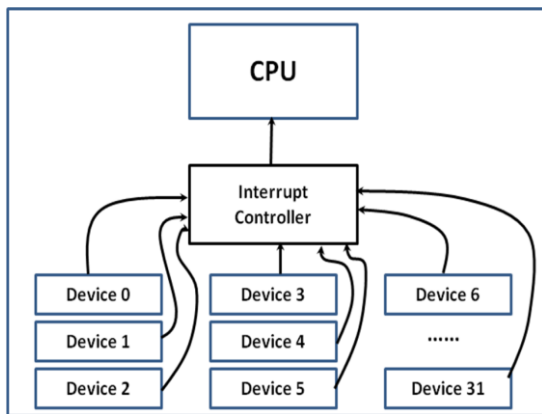
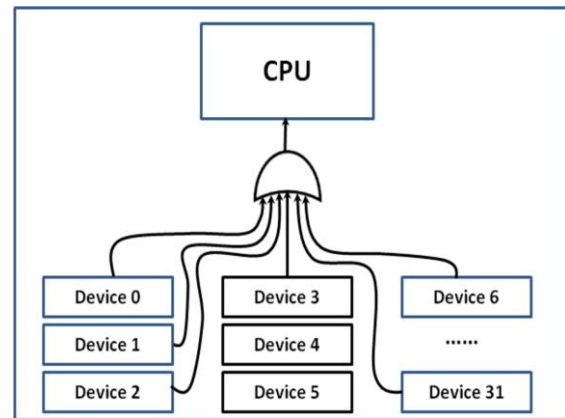

Figure 1. GIC
Figure 2. Simple interrupt controller
1. In computer systems, the interrupt controller is an essential hardware component. The GIC discussed in the class is shown in Figure 1. Another simple way to connect interrupt sources to CPU is through an OR gate as shown in Figure 2. **(20 points)**
- a. Assume that interrupts were generated from several I/O devices. So, CPU jumped to ISR (Interrupt Service Routine). Write the pseudo codes in C or ARM assembly to check the highest-priority interrupt source for Figure 1 and Figure 2. Refer to the next page for GIC registers. **(15 points)**
<pre>// Answer for the configuration of Figure 1 The GICC_IAR (Interrupt Acknowledge Register) contains the interrupt source number with the highest priority, ldr r1, = GICC_IAR ldr r1, [r1] jump to ISR based on r1 // r1 contains the source number // with highest priority</pre>	<pre>// Answer for the configuration of Figure 2 for (i=0; i<#devices;i++) { check status register of device(i); if (interrupt_requested) jump to its ISR }</pre> <p>The status register should be checked in the order of the priority of devices</p>
- b. Based on the answer in (a), what is the benefit of using Figure 1, compared to Figure 2 **(5 points)**
Interrupt latency (time to jump to an appropriate ISR) is small, compared to Figure 2